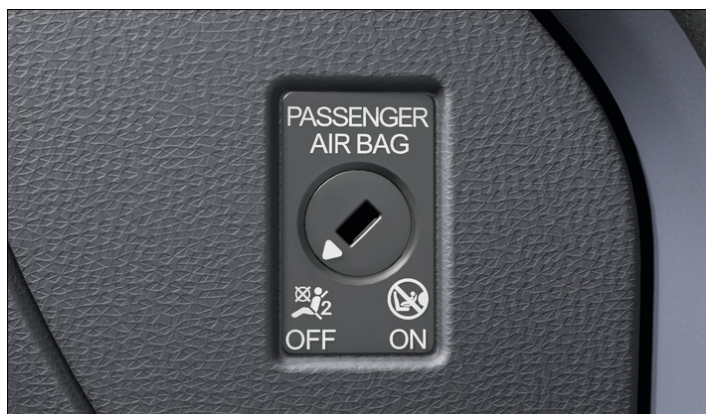

Fig. 1 In the dash panel on the front passenger side: key-operated switch for deactivating and activating the front airbag on the front passenger side
- Insert the key bit into the key-operated switch on the dash panel until you feel the second point of resistance → Fig. 1. Around three quarters of the key bit should be inserted in the key switch at this point → .